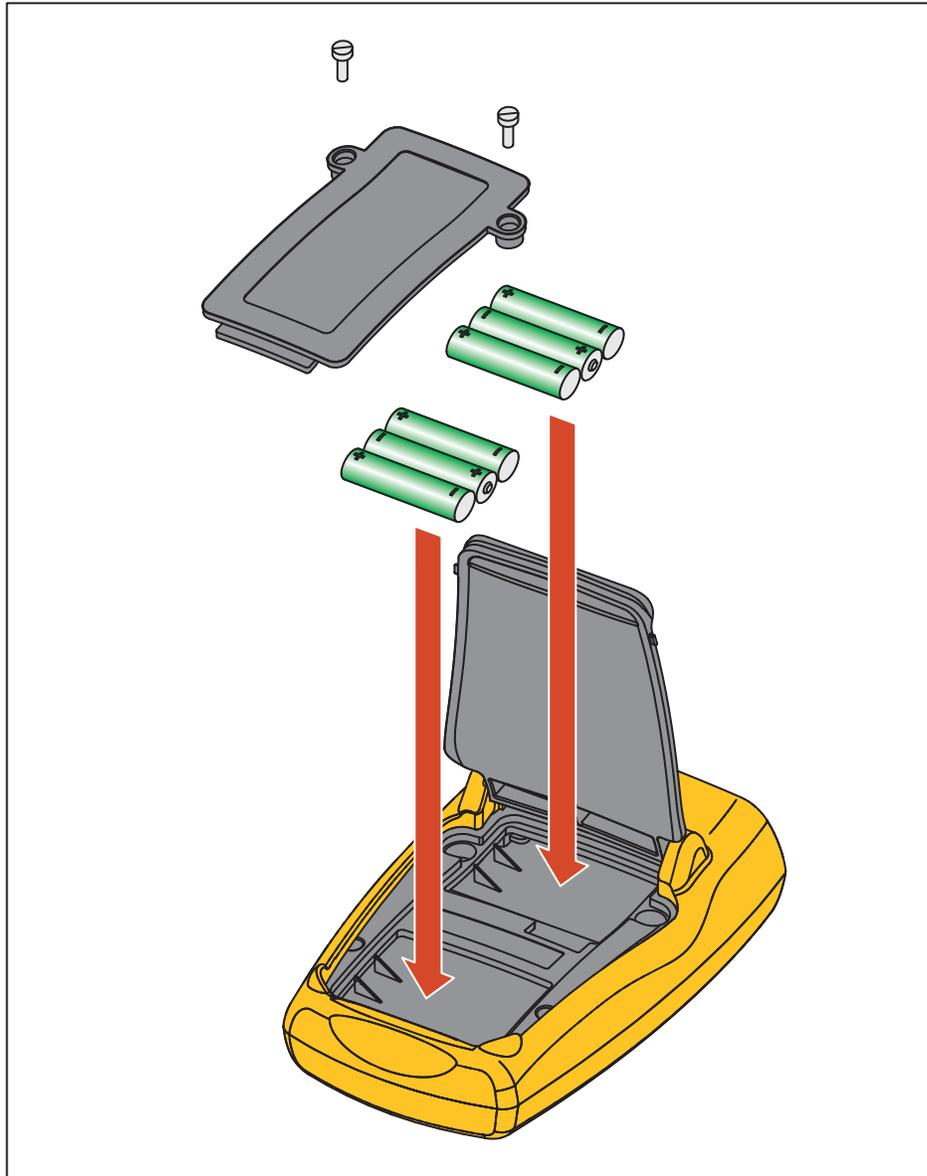

Figure 1. Battery Replacement
2. Lift bail to access the battery door. See Figure 1.